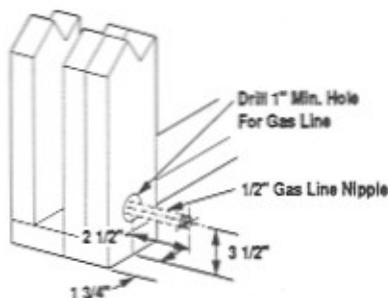

Figure 5
**Step 2.** Route a 1/2" NPT black iron gas line behind the front face of rough framing (Figure 5). Framing members at this point must be drilled to accept the gas line.
**Step 2.** Route a 1/2" NPT black iron gas line behind the front face of rough framing (Figure 5). The gas line may only enter the appliance from the left side. Framing members at this point must be drilled to accept the gas line.